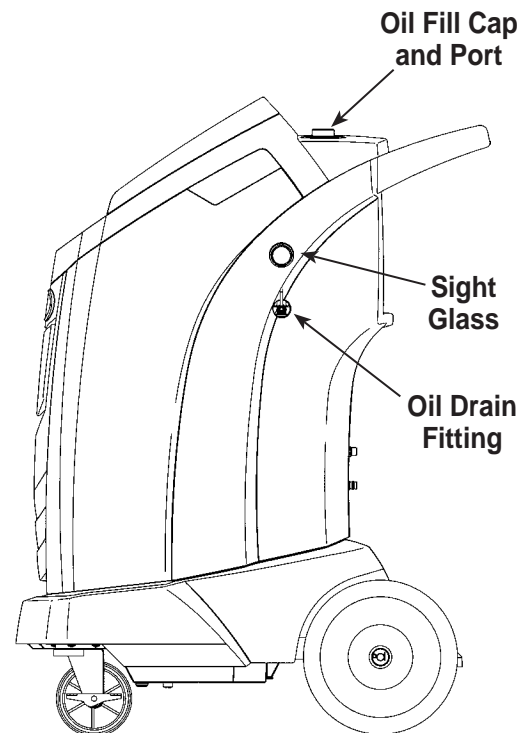

Figure 21
3. After the compressor stops, **slowly** open the oil fill cap to verify there is no pressure in the machine. Then carefully remove the cap. See Figure 21.